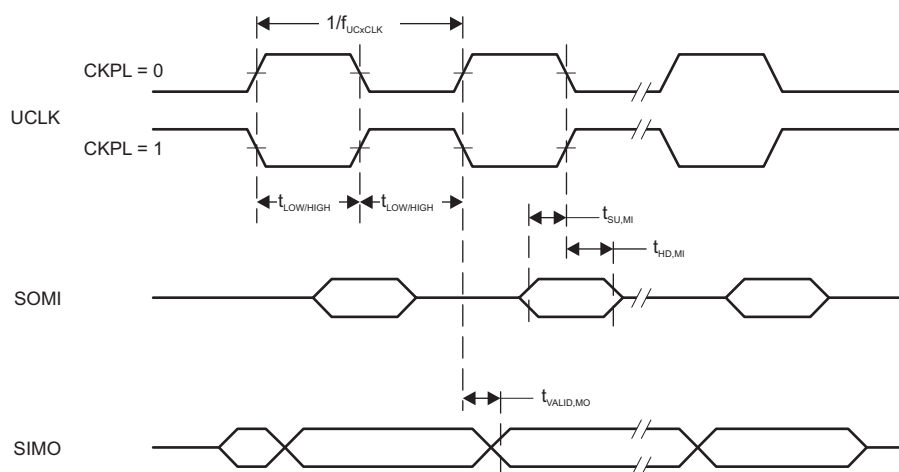
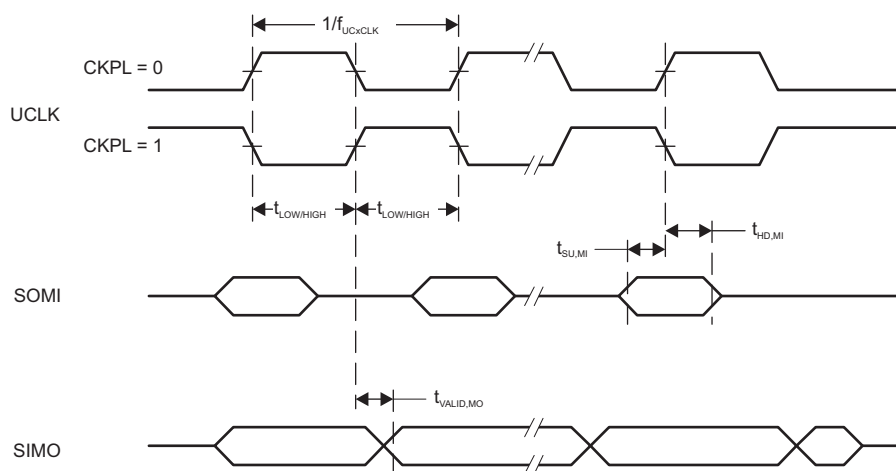

Figure 5-10. SPI Master Mode, CKPH = 0
Figure 5-11. SPI Master Mode, CKPH = 1
(2) Specifies the time to drive the next valid data to the SIMO output after the output changing UCLK clock edge. See the timing diagrams in Figure 5-10 and Figure 5-11.
(3) Specifies how long data on the SIMO output is valid after the output changing UCLK clock edge. Negative values indicate that the data on the SIMO output can become invalid before the output changing clock edge observed on UCLK. See the timing diagrams in Figure 5-10 and Figure 5-11.